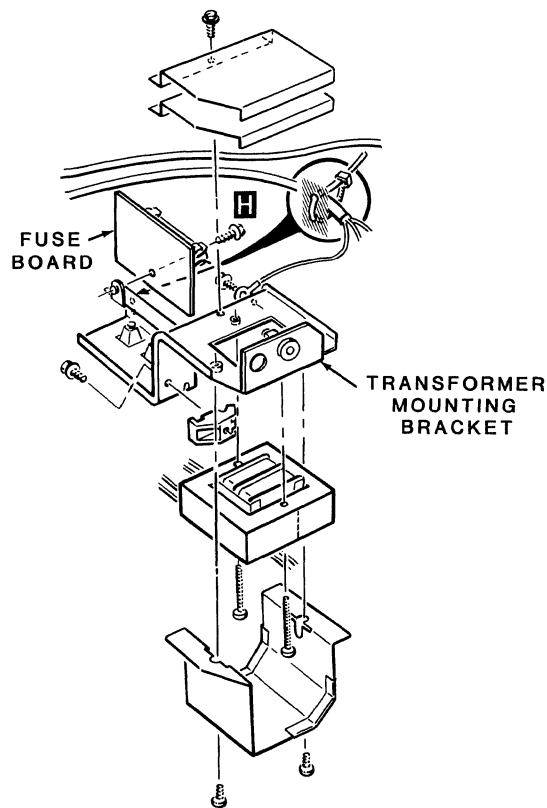

Figure 6.6
- Refer to Figure 6.6 and remove the 8-18 x .312" hex head screw at **H** that secures the board to the bracket; then remove the fuse board.